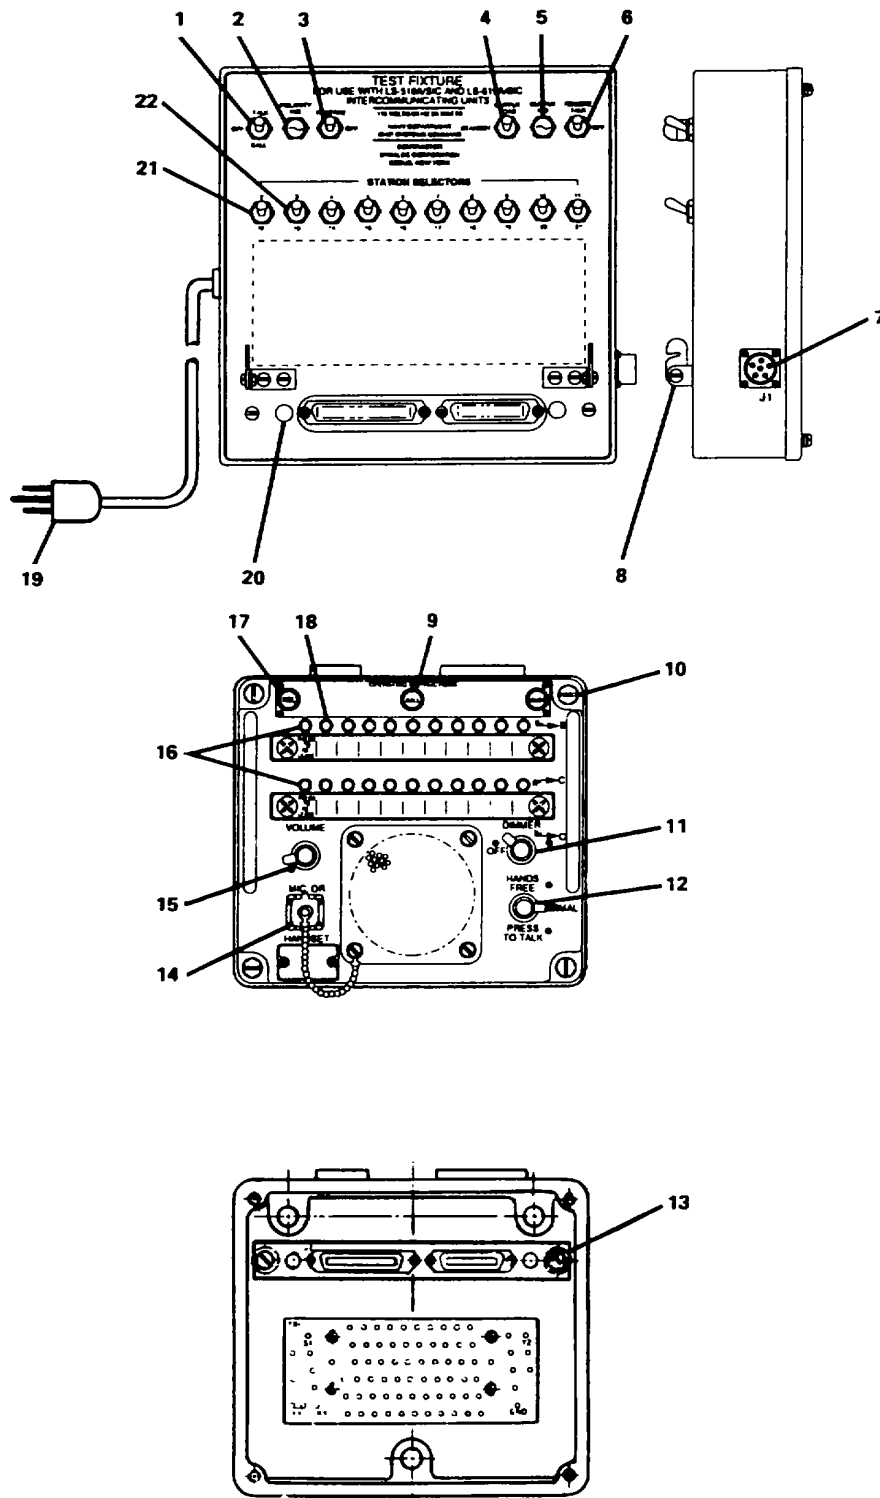

Figure 2-115. Test Intercommunications Unit.
(1) Mate locating pins of intercommunication station (13, Figure 2-115) with test fixture holes (20). Press units together and secure with side straps (8).
(2) Press station PRESS TO RELEASE buttons (16). Verify all select buttons are out.
(3) Rotate station VOLUME (15) and DIMMER (11) knobs to maximum clockwise position.
(4) Connect microphone to station receptacle (14).
(5) Plug test fixture cord (19) into wall receptacle.